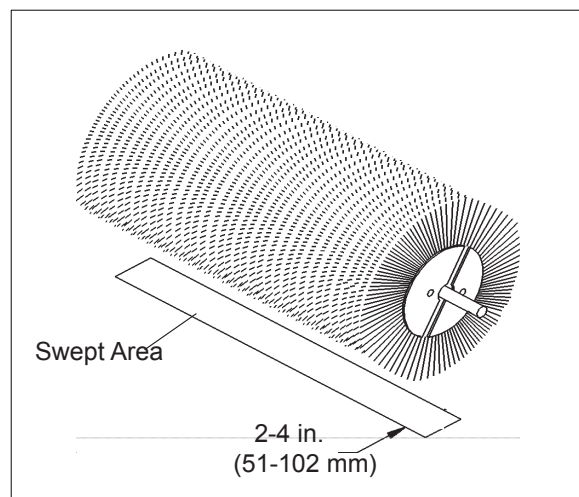

Figure 1
4. Raise the sweeper and back away; switch off the engine and remove the key. The brush pattern left in the dust should be 2-4 inches (51-102 mm) wide, running the length of the brush. (Compare the swept area with figure 1.)